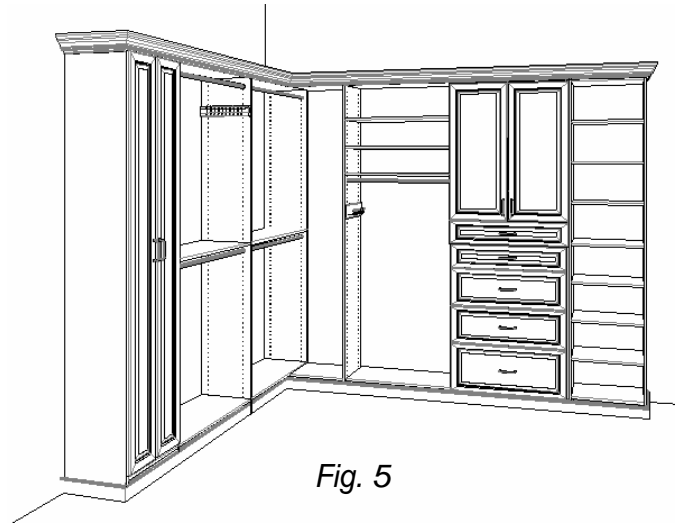

Fig. 5
- Wherever base molding is included in the design, the bottom fixed shelf must be locked in. This includes designs with continuous corner bottom shelving and returns. (See Fig. 5.) If necessary, create wraparound bottom shelves just as in a continuous top shelf design. However, you cannot use H-Channels along the bottom since they create gaps. See Ladder Base Assembly instructions below for creating this bottom platform.